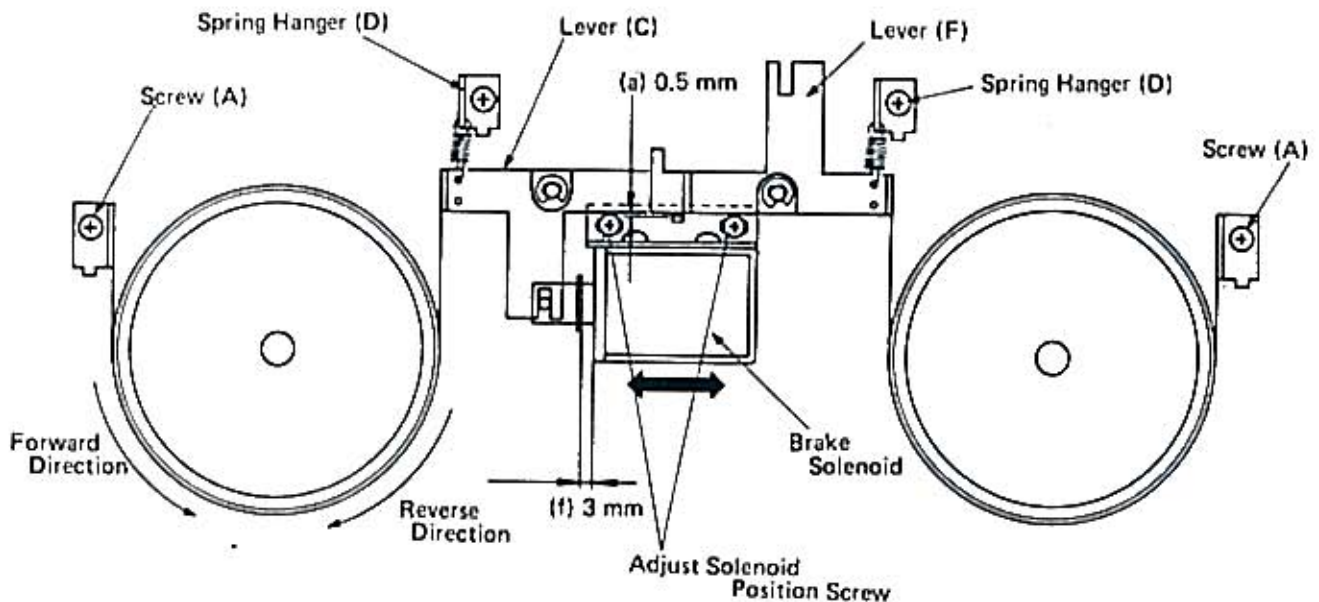

Fig. 1-3-2
1. Screw (A) for the left brake (as viewed from the front) must be adjusted so that lever (C) is parallel to brake solenoid. Screw (A) for the right brake must be adjusted so that there is a clearance (a) of 0.5 mm between lever (C) and lever (F). See Fig. 1-3-2.
1. If the forward-direction torque is not correct, change the hooking position of the spring hanger (reference (D) in Fig. 1-3-2) for the corresponding brake requiring adjustment. If, after the forward-direction torque has been properly adjusted, the reverse-direction torque is not correct, or the forward-direction torque is still not correct, replace the brake felt pad with a new one after cleaning the inner side of the brake band with a cleaning alcohol, and also check that the brake mechanism is properly aligned as explained in Section 1-3-2, "Brake Mechanism". If necessary, replace the entire reel table.